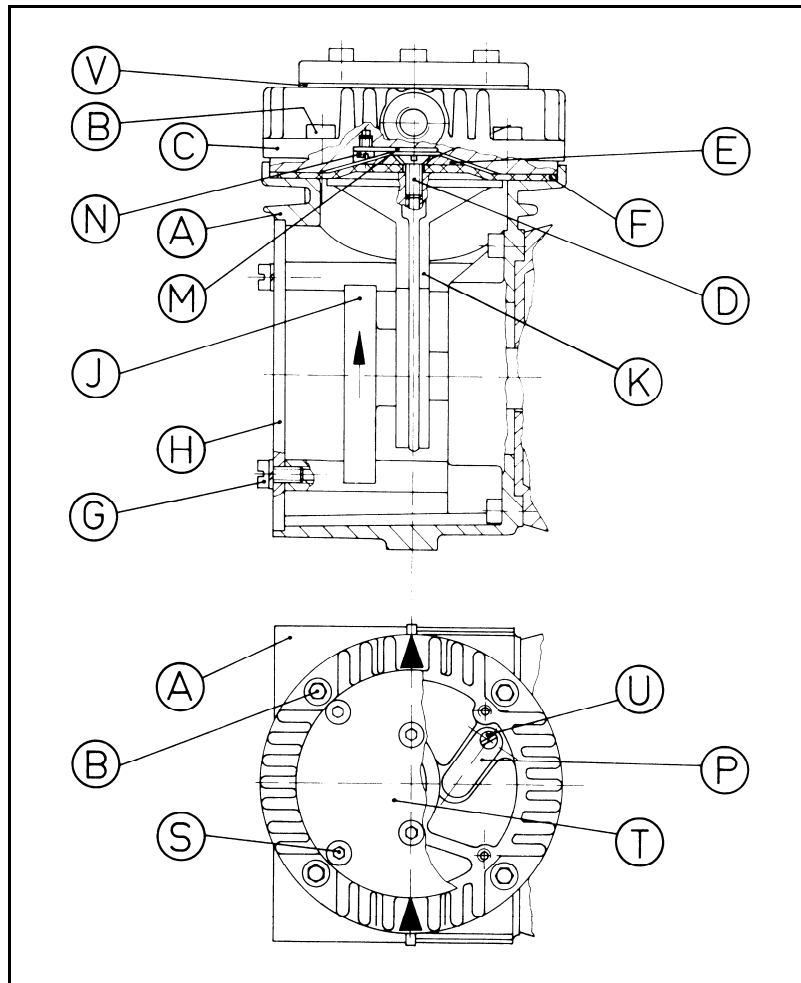

Fig. 6: Pump parts for versions with aluminium head
**According to Fig. 6.
After diaphragm and reed valves (valve plate) have been replaced	<ul style="list-style-type: none"> ➔ Check the tubing for leaks. ➔ Possibly carefully tighten the screws (B) and (S) (see fig. 6) crosswise.
According to Fig. 6